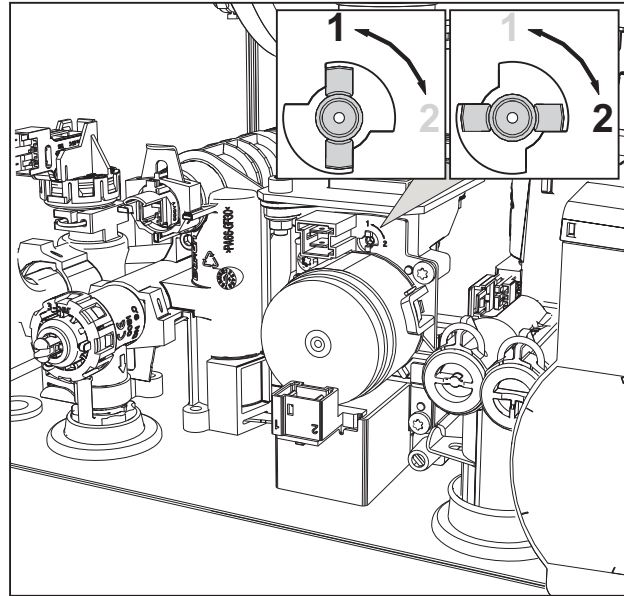

fig. 32
3. Turn the throttle (fig. 32) according to the position indicated in the table 9.